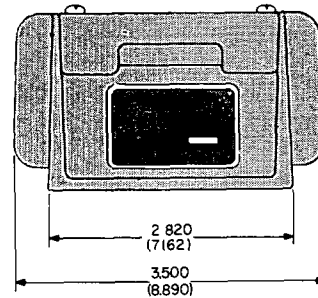

FIGURE 2-3 KA 39
- (b) Refer to Figure 2-3 for the KA 39 mounting dimensions.